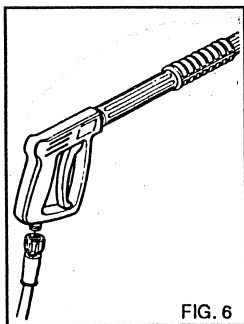

FIG. 6
- 3) Connect the high pressure hose to the cleaner C and to the lance (fig. 6).